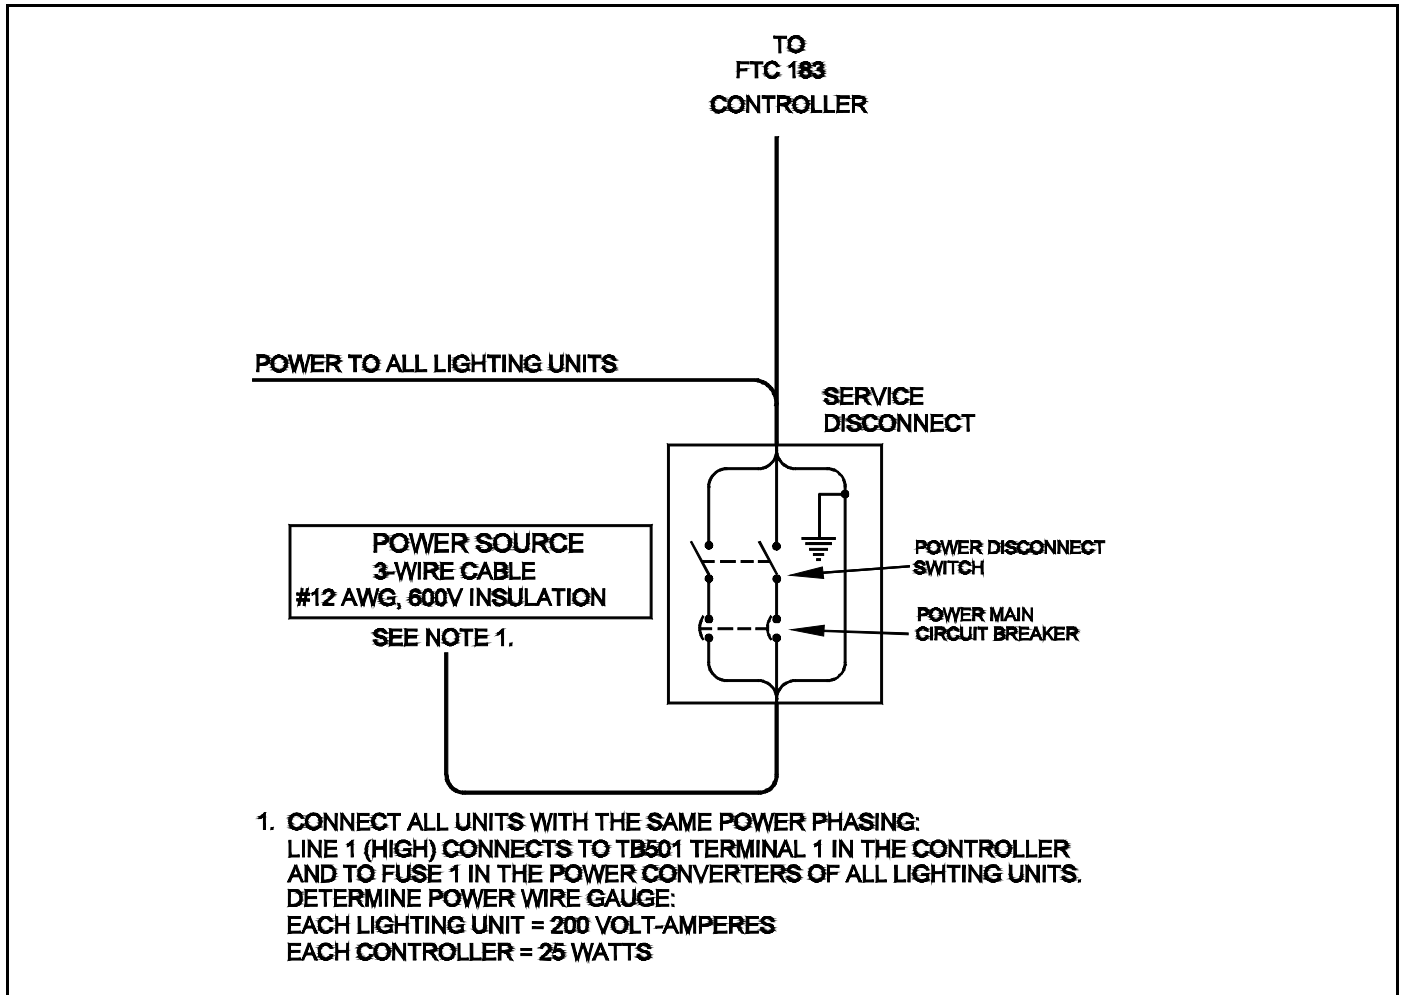

Figure 2-1 Recommended External Power Switching
- Wire the primary power of the system through an external circuit breaker and power switch (see *Figure 2-1*).